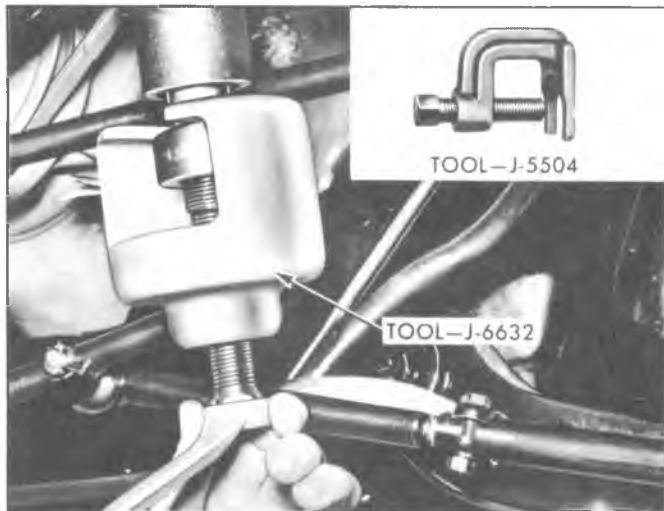

Fig. 1—Removing Pitman Arm — Typical
2. Remove the pitman arm nut. Mark the relationship of the pitman arm to the pitman shaft. Remove the pitman arm with Tool J-6632 or J-5504 as shown in Figure 1.